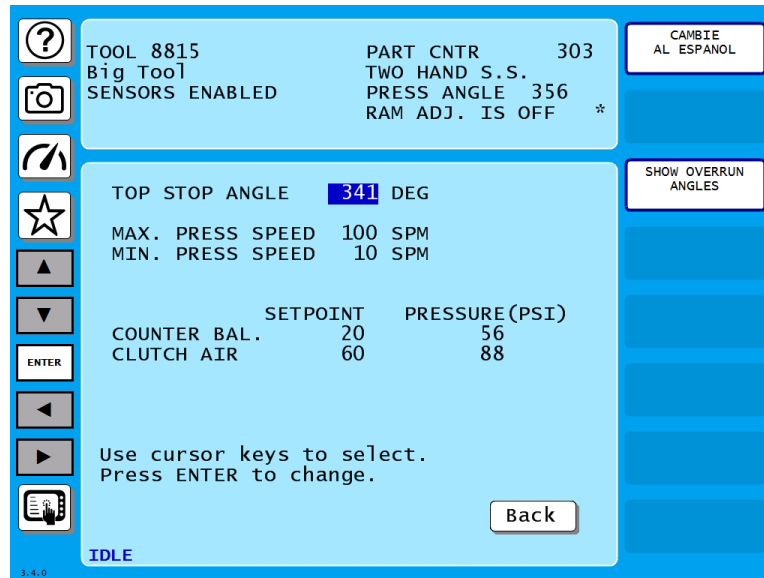

Figure 5-3. Press Control Parameters Screen
This item enables you to adjust the top-stop angle, maximum and minimum press speed limits, and counterbalance setpoint established for the selected tool in Program mode, *PRESS CONTROL*, page 74. (The Counterbalance Setpoint field does not display if the Counterbalance Tolerance has been set to zero (0) in Initialization mode.) Make these adjustments on the Press Control Parameters screen, Figure 5-3.
In addition, the current Counterbalance air pressure may be displayed if the Counterbalance Tolerance is set to a value other than zero (0) in Initialization, and the Main Air pressure setpoint and current Main Air pressure are shown if the Main Air Limit has been set to a non-zero value in Initialization (see Figure 5-3).